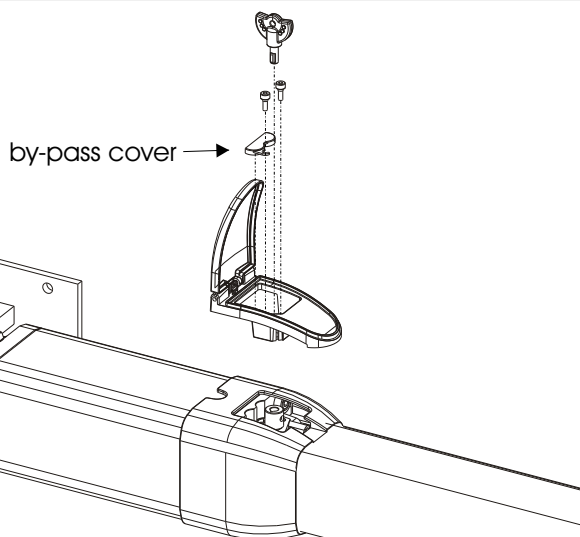

Fig. 23
- 1) Release the operator (as in Fig. 23 of page 11)
- Release the unit (as in Fig. 23 of page 10)
ATTENTION: the mounting of the plastic release must be effectuated as shown in fig. 23 only and exclusively after having finished all the instalation operations, mounting of the rod cover and calibration of the by-pass valves.